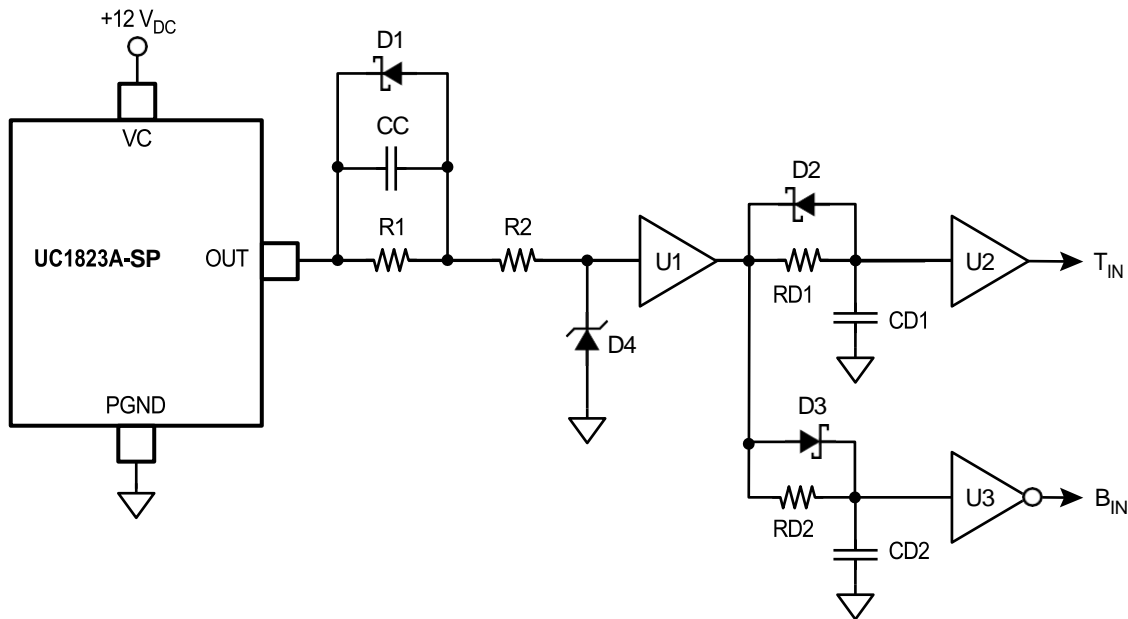
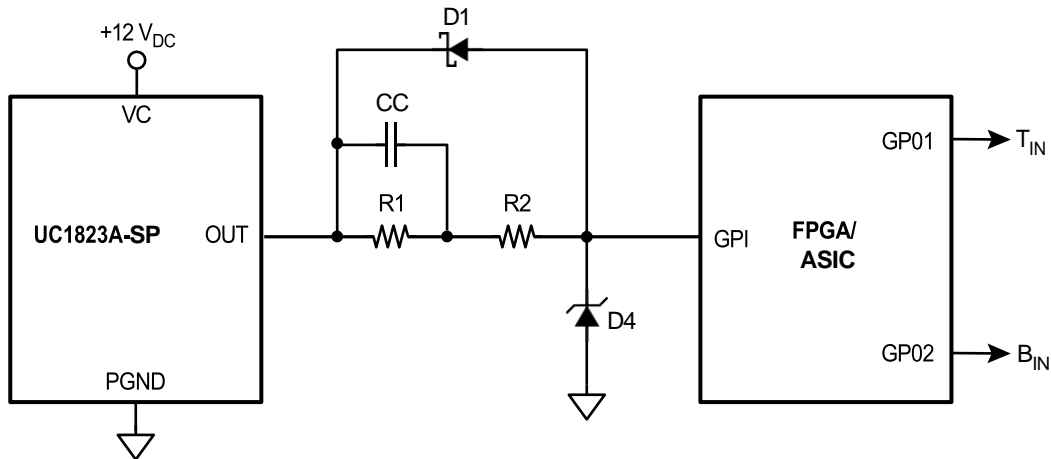
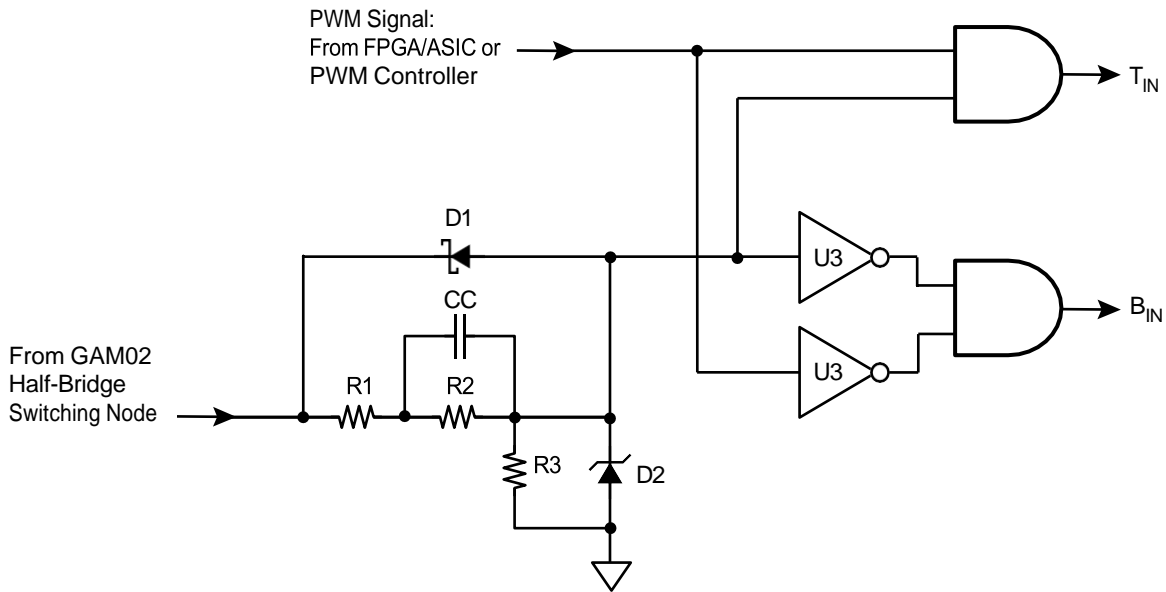

Figure 15. Zener Diode Logic Input Voltage Clamp Circuit and Dead Time Delay Circuit
Figure 16. Zener Diode Logic Input Voltage Clamp Circuit with ASIC/FPGA Two-Phase Clock (With Dead Time) Generator
Figure 17. Adaptive Dead Time Control for Cross-Conduction/Shoot-Through Avoidance
A Zener diode may be used to clamp the  $B_{IN}$  and  $T_{IN}$  logic inputs of the FBS-GAM02-P-C50 in order to interface the module to a high output voltage level PWM controller, as shown in Figure 15. The output of the UC1823A is a totem-pole configuration, and the output switches between  $0 V_{DC}$  and  $12 V_{DC}$  as logic 0 and logic 1, respectively. The transition times between logic states for a 1000 pF load are typically 20 ns, but much faster with lighter loads.
The same Zener diode clamping circuit as shown in Figure 15 may be used to clamp the output of the UC1823A to a lower voltage level in order to present it to an ASIC/FPGA in order to generate the requisite two-phase clock signals for the  $B_{IN}$  and  $T_{IN}$  logic inputs of the FBS-GAM02-P-C50. A typical circuit for this circuit implementation is shown in Figure 16:
In the circuit of Figure 16 all the high-speed and high accuracy analog functions associated with the PWM controller are performed off-chip from the FPGA/ASIC. The programmable logic of the FPGA/ASIC and the associated firmware code is responsible for generating the two-phase clock with dead times required by the  $B_{IN}$  and  $T_{IN}$  inputs of the FBS-GAM02-P-C50.
In circuits shown in both Figure 15 and 16 the dead times required by the FBS-GAM02-P-C50 to avoid cross-conduction/shoot-through are generated in a “brute force” manner either with analog components (Figure 15) or with programmable logic and firmware in an FPGA/ASIC (Figure 16). There is another way to obtain the optimum dead times for the FBS-GAM02-P-C50 device – adaptive dead time control, as shown in Figure 17.
Adaptive dead time control utilizes the state of the switching node (SN) of the GAM02 in order to allow the  $B_{IN}$  or  $T_{IN}$  signals (in this case the  $B_{IN}$  signal is the simple logical inverse of the  $T_{IN}$  signal) to be applied to the  $B_{IN}$  or  $T_{IN}$  logic inputs of the FBS-GAM02-P-C50 in order to avoid dynamic cross-conduction/shoot-through in the low- and high-side output power HEMTs. If the switching node of the FBS-GAM02-P-C50 is “low” (i.e. at PGND) then the low-side switch is turned ON, or in the process of turning OFF, and the high-side switch must not be turned ON (i.e. a logic 1 applied to the  $T_{IN}$  input). Similarly, if the switching node is “high” (i.e. at  $V_{DD}$ ), then the high-side switch is turned ON, or in the process of turning OFF, and the low-side switch must not be turned ON (i.e. a logic 1 applied to the  $B_{IN}$  input). However, if the  $B_{IN}$  input is logic 0 and the switching node is “high” (i.e. the high-side catch Schottky conducting load current) then the  $T_{IN}$  input may be set to logic 1 to turn on the high-side driver. This same situation applies to the high-side driver: If the  $T_{IN}$  input is logic 0 and the switching node is “low” (i.e. the low-side catch Schottky is conducting load current) then the  $B_{IN}$  input may be set to logic 1 to turn on the low-side driver. The circuit shown in Figure 17 relies on a similar voltage clamping scheme for the switching node as was utilized in Figures 15 and 16, with the exception that the power supply  $V_{DD}$ , and subsequent range of the switching node, could be much higher than  $12 V_{DC}$  – in fact up to  $50 V_{DC}$  for the FBS-GAM02-P-C50. So greater care must be exercised in the selection of the clamping components to avoid excessive power dissipation in them, and the associated decrease in circuit efficiency. It is strongly recommended to simulate the circuit once the components have been selected to ensure that the proper clamping level is achieved and that the power dissipation of the clamp circuit is kept to a reasonable level so as not to affect overall circuit operating efficiency.